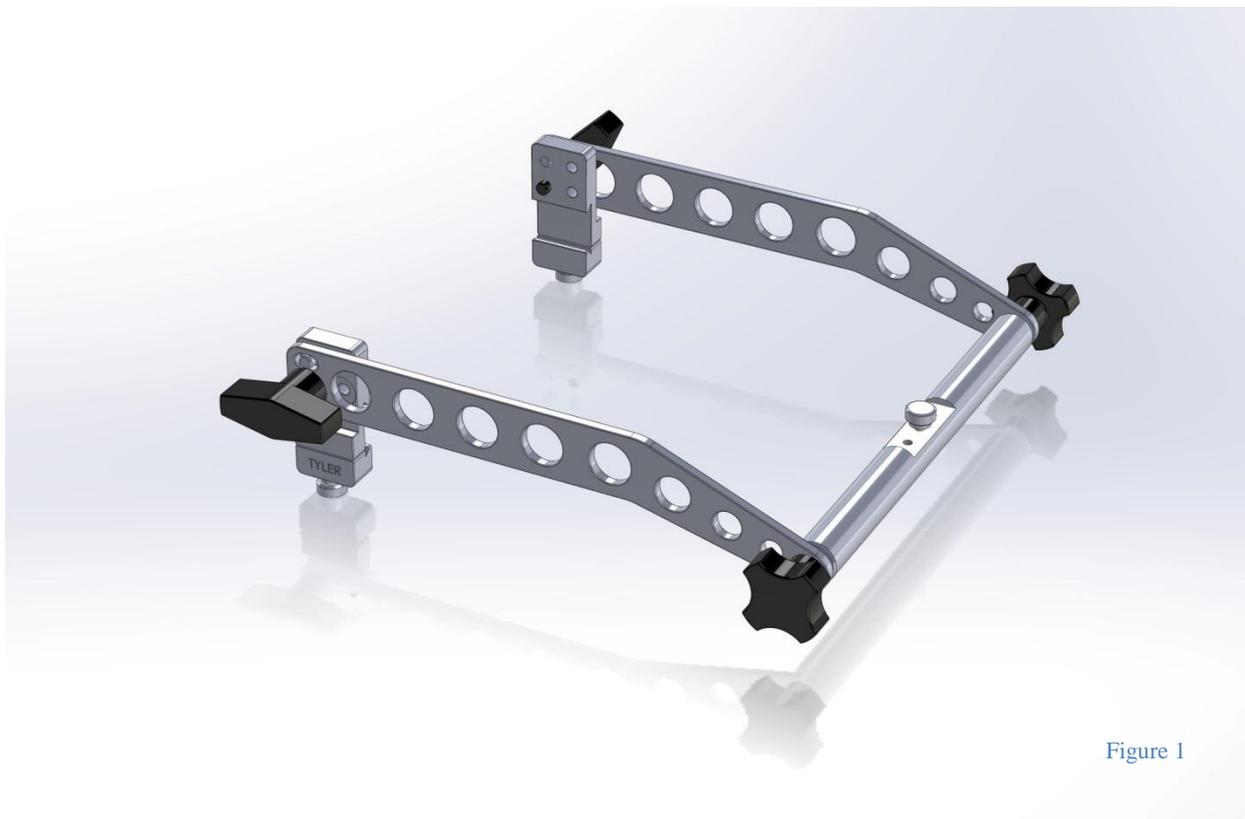

Figure 1
The alignment frame in its assembled state is shown in Figure 1.
- Gently tighten the 4 black adjustment knobs so that the frame is aligned approximately as shown in Figure 1.